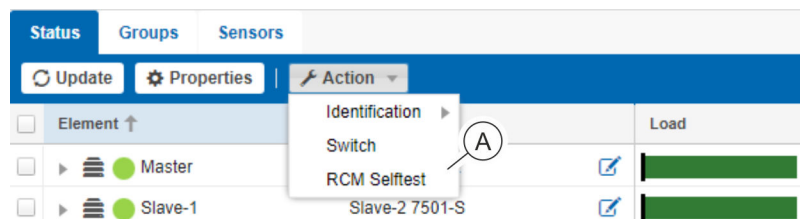

Fig. 106: “Status” menu
2. ➤ Select the RCM self-test using “Action → RCM Selftest” (Fig. 106/ⓐ).